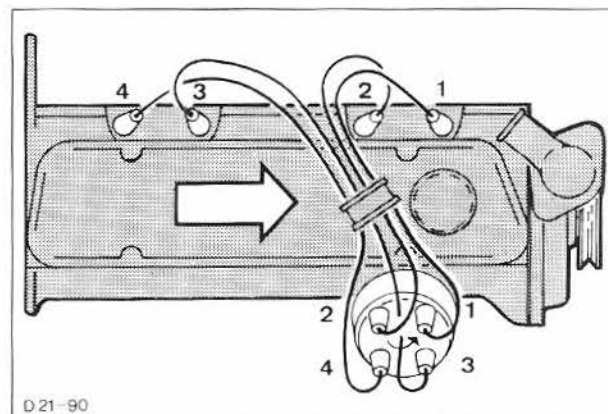

Fig. 75. Spark plug HT lead arrangement (firing order).
21. Refit rocker cover, fit HT leads, Fig. 75 and refit air cleaner.